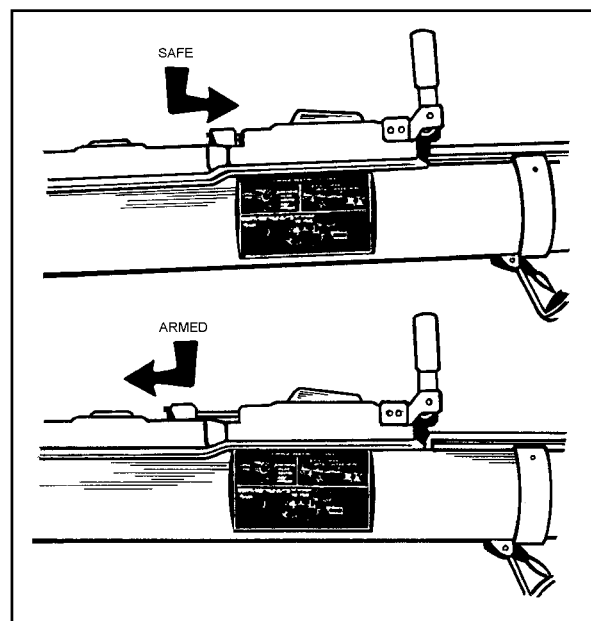

Figure 2-7. Trigger arming handle.
a. **Trigger Arming Handle.** The trigger arming handle is located forward of the trigger bar and has two positions: SAFE and ARM. Leave the trigger arming handle on SAFE until the launcher is in the correct firing position (Figure 2-7). To press the trigger, you must first pull the arming handle forward and lock it in the ARM position.